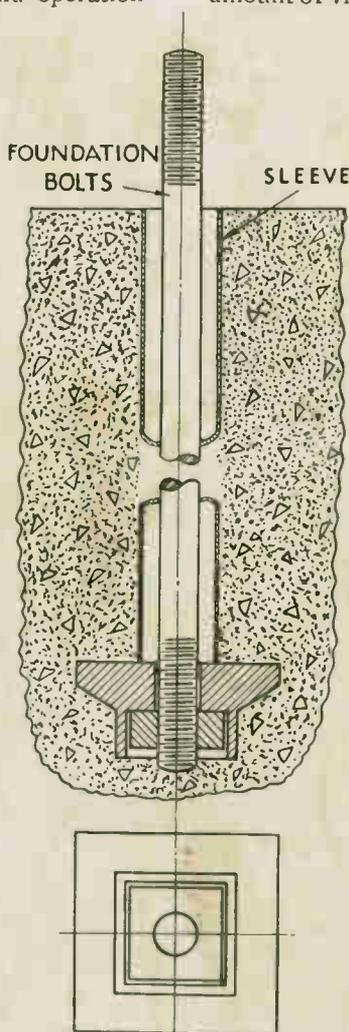

Fig. 1
7. Foundation bolts of the specified size should be accurately located according to drawings or templates and each bolt should be surrounded by a pipe sleeve, shown by Fig. 1, three or four diameters larger than the bolt. After the concrete is poured the pipe is held solidly in place while the bolts inside of it may be moved around to conform to the holes in bedplate.